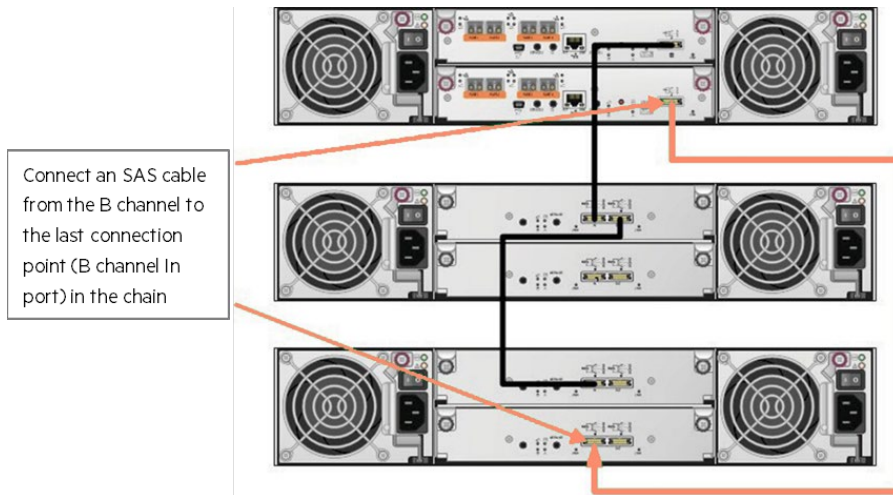

**Figure 28.** Straight-through cabling configuration
5. Remove existing cabling from the B channel chain as indicated in Figure 28.